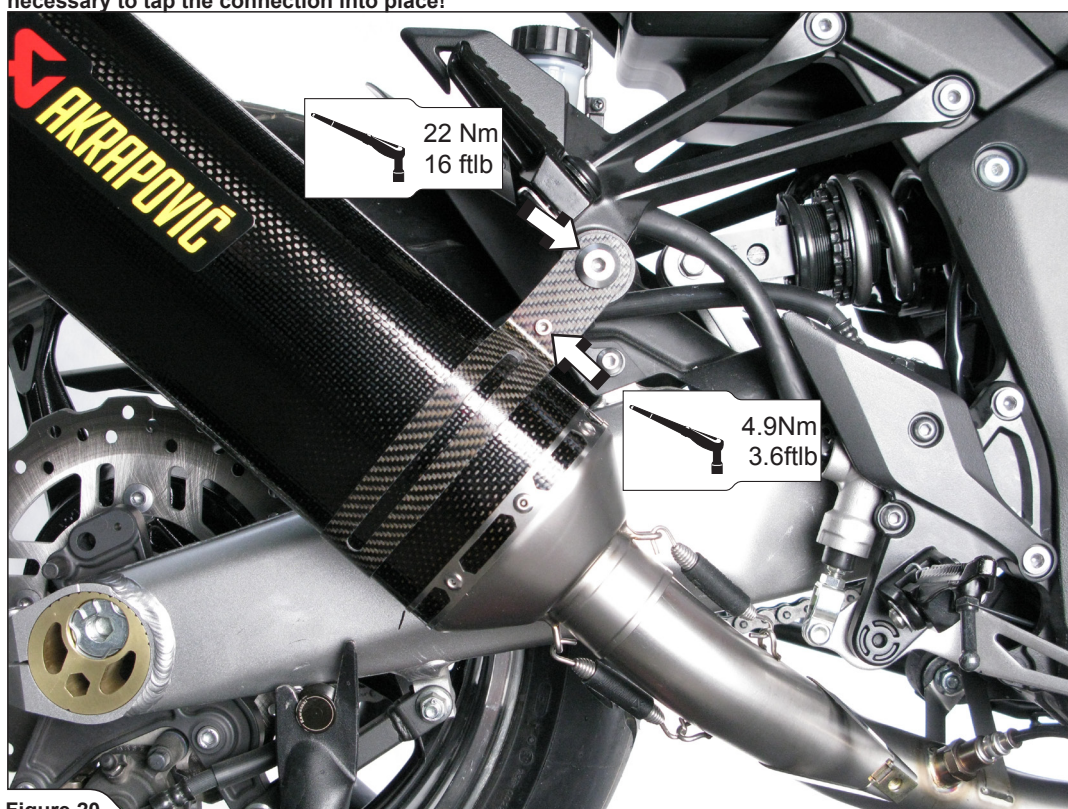

Figure 20
- Correctly position the carbon-fiber clamp and slide it onto the muffler - bear in mind the **left offset** of the carbon fiber clamp viewed from the rear. Slide the muffler onto the outlet side of the link pipe and attach the springs. Align the muffler in respect to the motorcycle and tighten the carbon-fiber clamp to the specified torques (**Figure 20**).